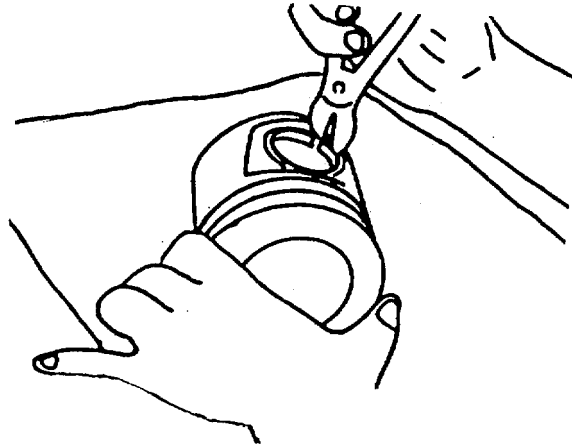

FIGURE 4-44. Install Retaining rings
- a. Install retaining ring in the pin groove on the "FRONT" side of the piston as shown in FIGURE 4-44.